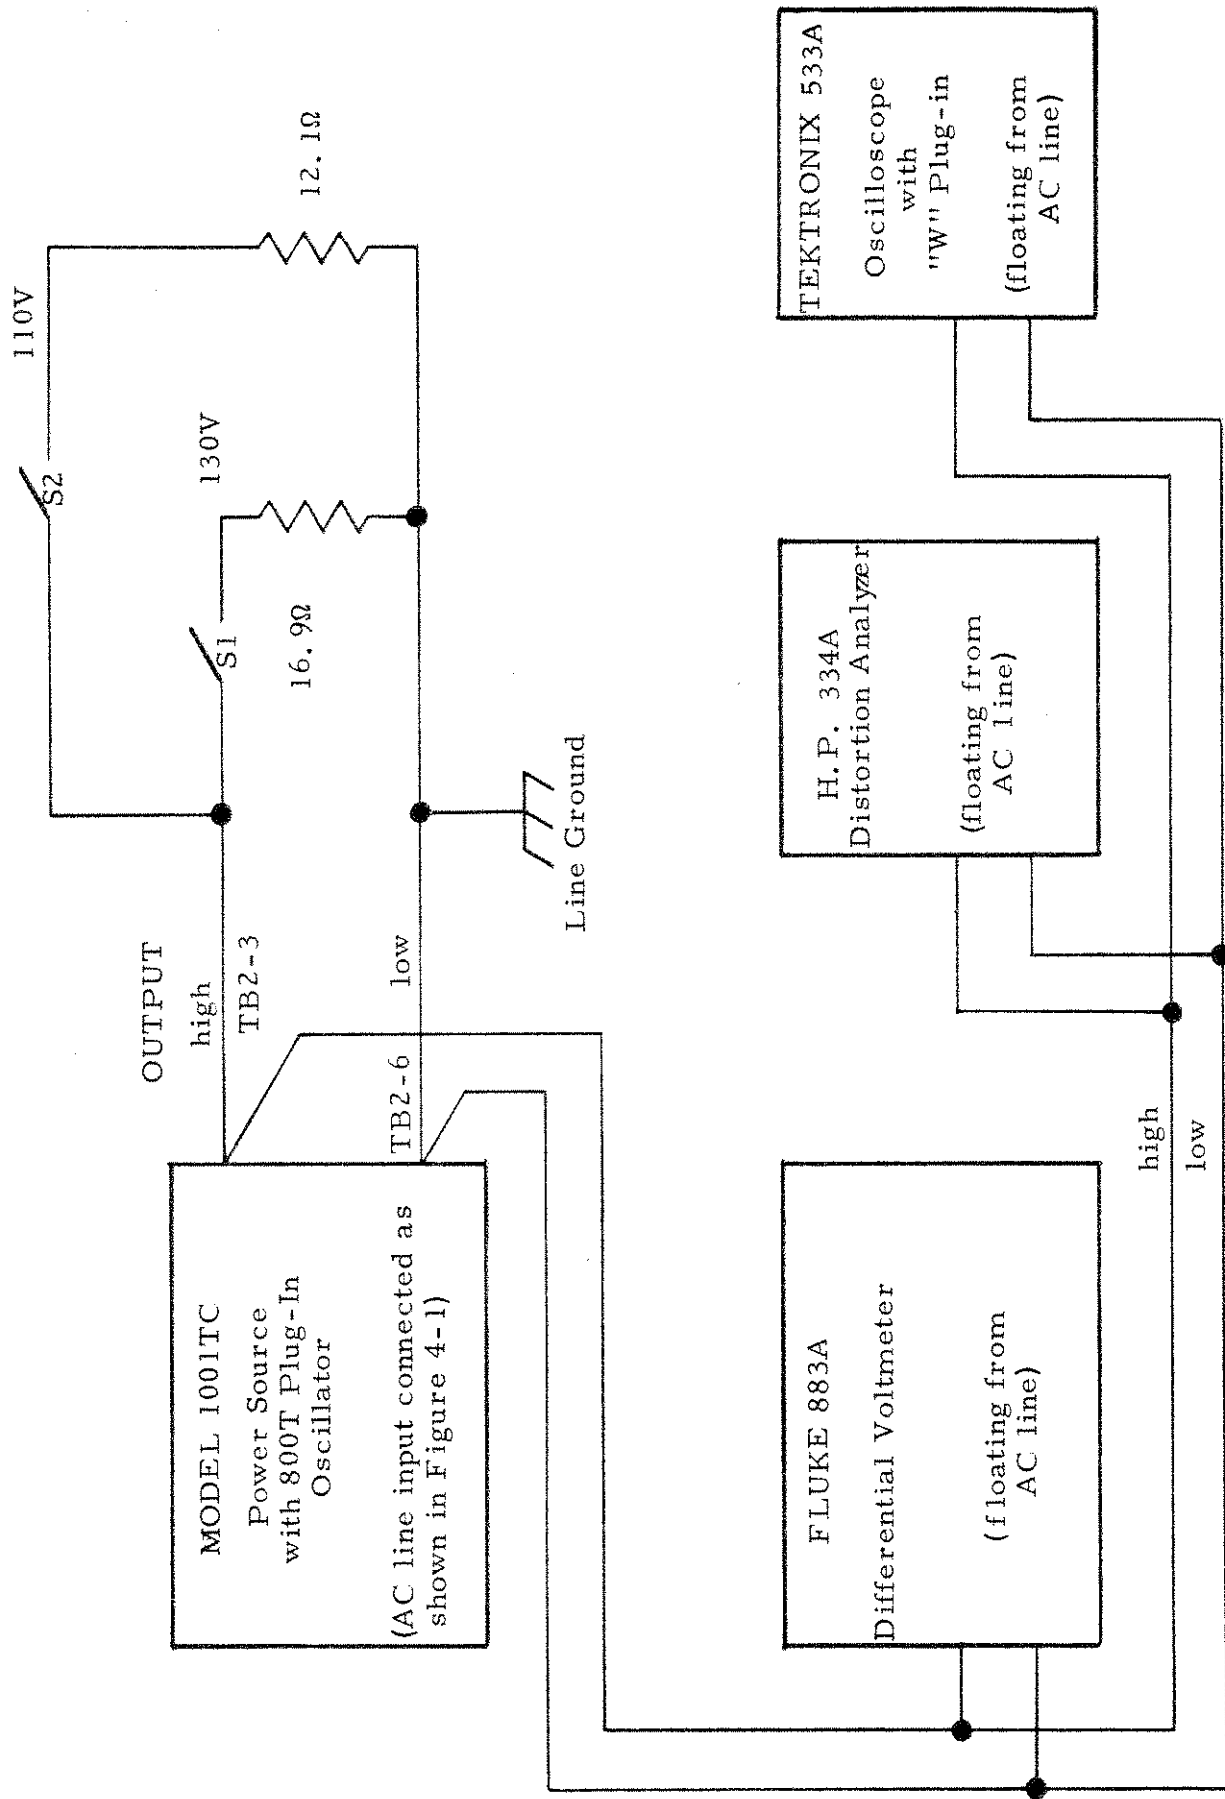
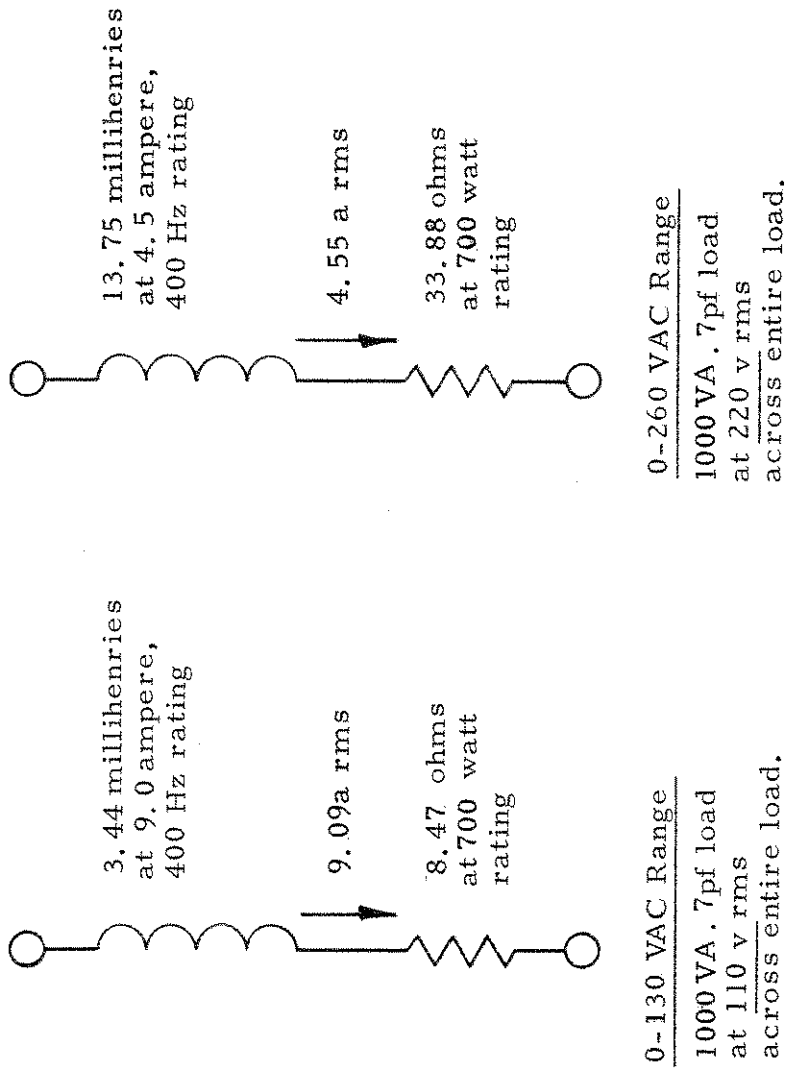

FIGURE 4-3. Test circuit for Model 1001TC Power Source
FIGURE 4-4. Circuit for 1000 VA 0.7 Lagging Power Factor Load at 400 Hz.
- 4.4.1 Connect the Model 1001TC Power Source as shown in Figure 4-3. Select the 130 volt range with the straps on TB2 and adjust the output voltage of the power source to 110 volts rms (84.6 per cent of rated output voltage) at 400 Hz. Close switch S2 (12.1 ohm load) and readjust the output voltage slightly, if required, in order to maintain a 110 volt output. The power source should deliver a clean sine wave output with less than 0.30 per cent distortion. Vary the frequency from 45 Hz to 5 KHz and check that the distortion does not exceed 0.50 per cent over the AC input line voltage range of 207 to 253 volts while maintaining the output voltage at 110 volts rms. Adjust potentiometer A1R47 so that no clipping or excessive distortion occurs on the positive peak of the output waveform under worst case conditions outlined above. Adjust potentiometer A1R50 so that no clipping or excessive distortion occurs on the negative peak of the output waveform under worst case conditions outlined above. These two adjustments may interact somewhat, so care should be taken not to move one adjustment excessively without checking the effect on the other adjustment.
4.5.1 Connect the Model 1001TC Power Source as shown in Figure 4-3. Select the 130 volt range with the straps on TB2. Adjust the variac to provide a 230 VAC line input and allow the power source to warm up a few minutes. Set the oscillator output to 400 Hz and adjust the output of the amplifier with the GAIN control to provide 130 volts rms (100 per cent of rated output). Close switch S1 so that the 16.9 ohm load is across the output of the power source.
4.6.1 Connect the Model 1001TC Power Source as shown in Figure 4-3. Select the 130 volt range with the straps on TB2. Set the oscillator frequency to 400 Hz. Close switch S1 (16.9 ohm load) and adjust the output of the power amplifier to 130 volts rms (100 per cent of rated output voltage) at 400 Hz.
- 4.7.1 Connect the Model 1001TC Power Source as shown in Figure 4-3. Check that the load is connected across TB2-3 and TB2-6 at the rear of the power source. The output voltage may be monitored either at the rear or the front of the power source. If it is monitored at the rear of the power source, care should be taken to use four-wire sensing. Adjust the output voltage of the Model 1001TC Power Source to 110 V rms output (84.6 per cent of rated output voltage) at 400 Hz.
- 4.8.1 Connect the Model 1001TC Power Source as shown in Figure 4-3. Adjust the AC input line voltage to 230 volts rms. Adjust the output of the power source to provide 115 volts rms output (88.5 per cent of rated output voltage) at 400 Hz. Connect a 13.23 ohm (1000 VA) load to the output terminals at the rear of the power source and check that the regulation control has been set to provide a zero output impedance.
- 4.9.1 Connect the Model 1001TC Power Source as shown in Figure 4-3. Adjust the input AC line voltage to 230 volts rms. Adjust the output of the power source to provide 130 volts output (100 per cent of rated output voltage) at 400 Hz.
- 4.10.1 Connect the Model 1001TC Power Source as shown in Figure 4-3. Adjust the line voltage to 230 volts rms. Adjust the output of the power source to provide 110 volts rms (84.6 per cent of rated output voltage) at 400 Hz.
4. 11. 1 Connect the Model 1001TC Power Source as shown in Figure 4-3. Select the load circuit to correspond with the required output voltage range. Figure 4-4 illustrates the load circuit and gives load parameter values for 1000 VA 0.7 power factor at 400 Hz with 84.6 per cent of rated output voltage from the power source. This represents the worst case inductive load for maximum power dissipation inside the power source.
4. 12. 1 Connect the Model 1001TC Power Source as shown in Figure 4-3. Select the load circuit to correspond with the required output voltage range. Figure 4-5 illustrates the load circuit and gives load parameter values for 1000 VA 0. 7 power factor operation at 400 Hz with 84. 6 per cent of rated output voltage from the power source. This represents the worst case capacitive load for maximum power dissipation inside the power source.